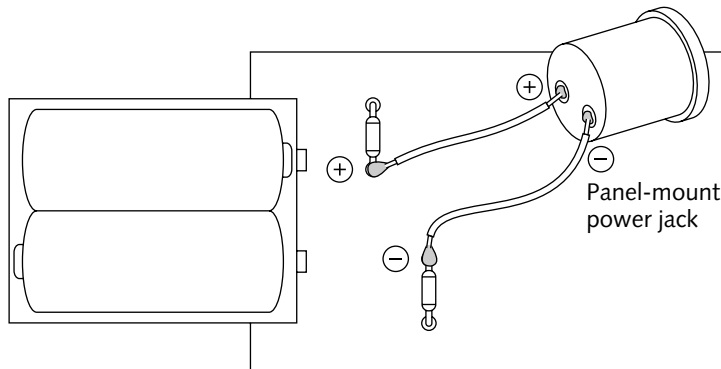

FIGURE 10-15: Noting polarity, solder extension wires to the power jack.
3. Solder two power extension wires to the new power jack: positive wire to the lug that goes to the center, or “tip” connector, of the jack, and negative to the other lug (see Figure 10-15).